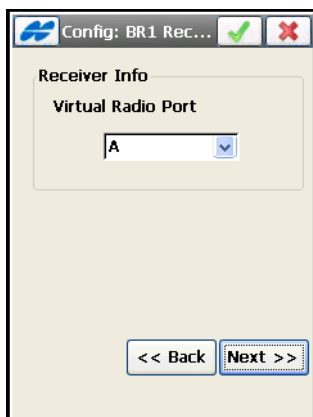

Figure 3-43. BR-1 Virtual Radio Port
- Next** – opens the **Survey Parameters** screen. In case of Controller connection, the **Config: BR-1 Receiver Info** displays first (Figure 3-43).
- *Virtual Radio Port* – sets the receiver port on which the receiver receives the RTCM messages from the controller. This port on the receiver is used in addition to the receiver port that is connected to the controller (see Figure 3-43).